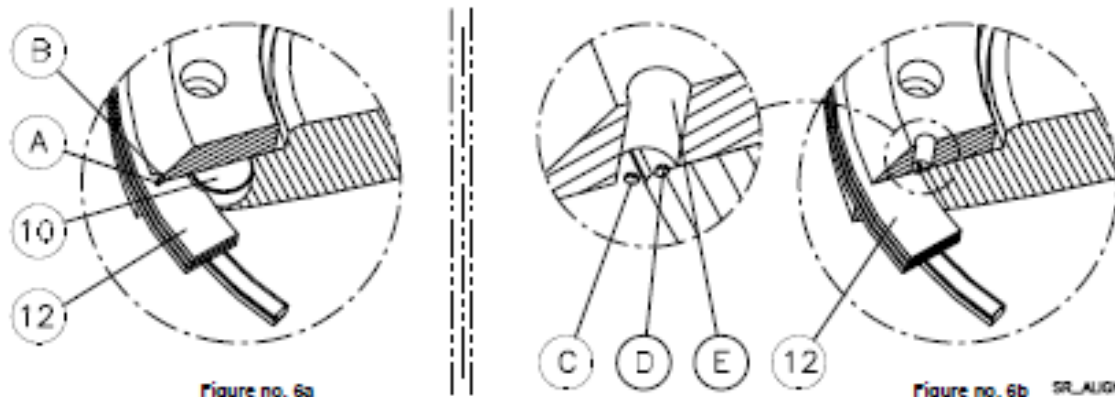

Figure no. 6a
•Solution 1- ref. to figure no. 6a: